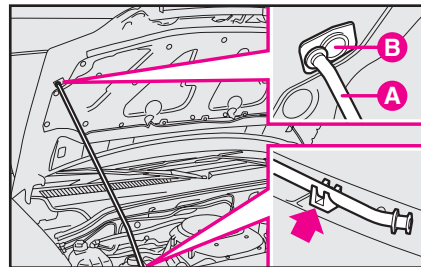

fig. 135
4) Open the bonnet and release the rod **A**-fig. 135 from its clip at the same time. Then **B** on the bonnet.
1) Hold the bonnet up with one hand and, with the other, remove rod **A**-fig. 135 from recess **B** and replace it in its clip.